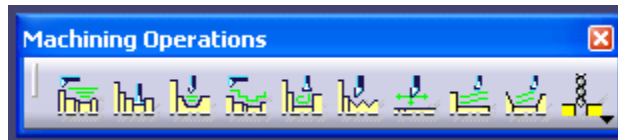

Figure 5.
- ii. Click Rough Turning Operation (figure 5)